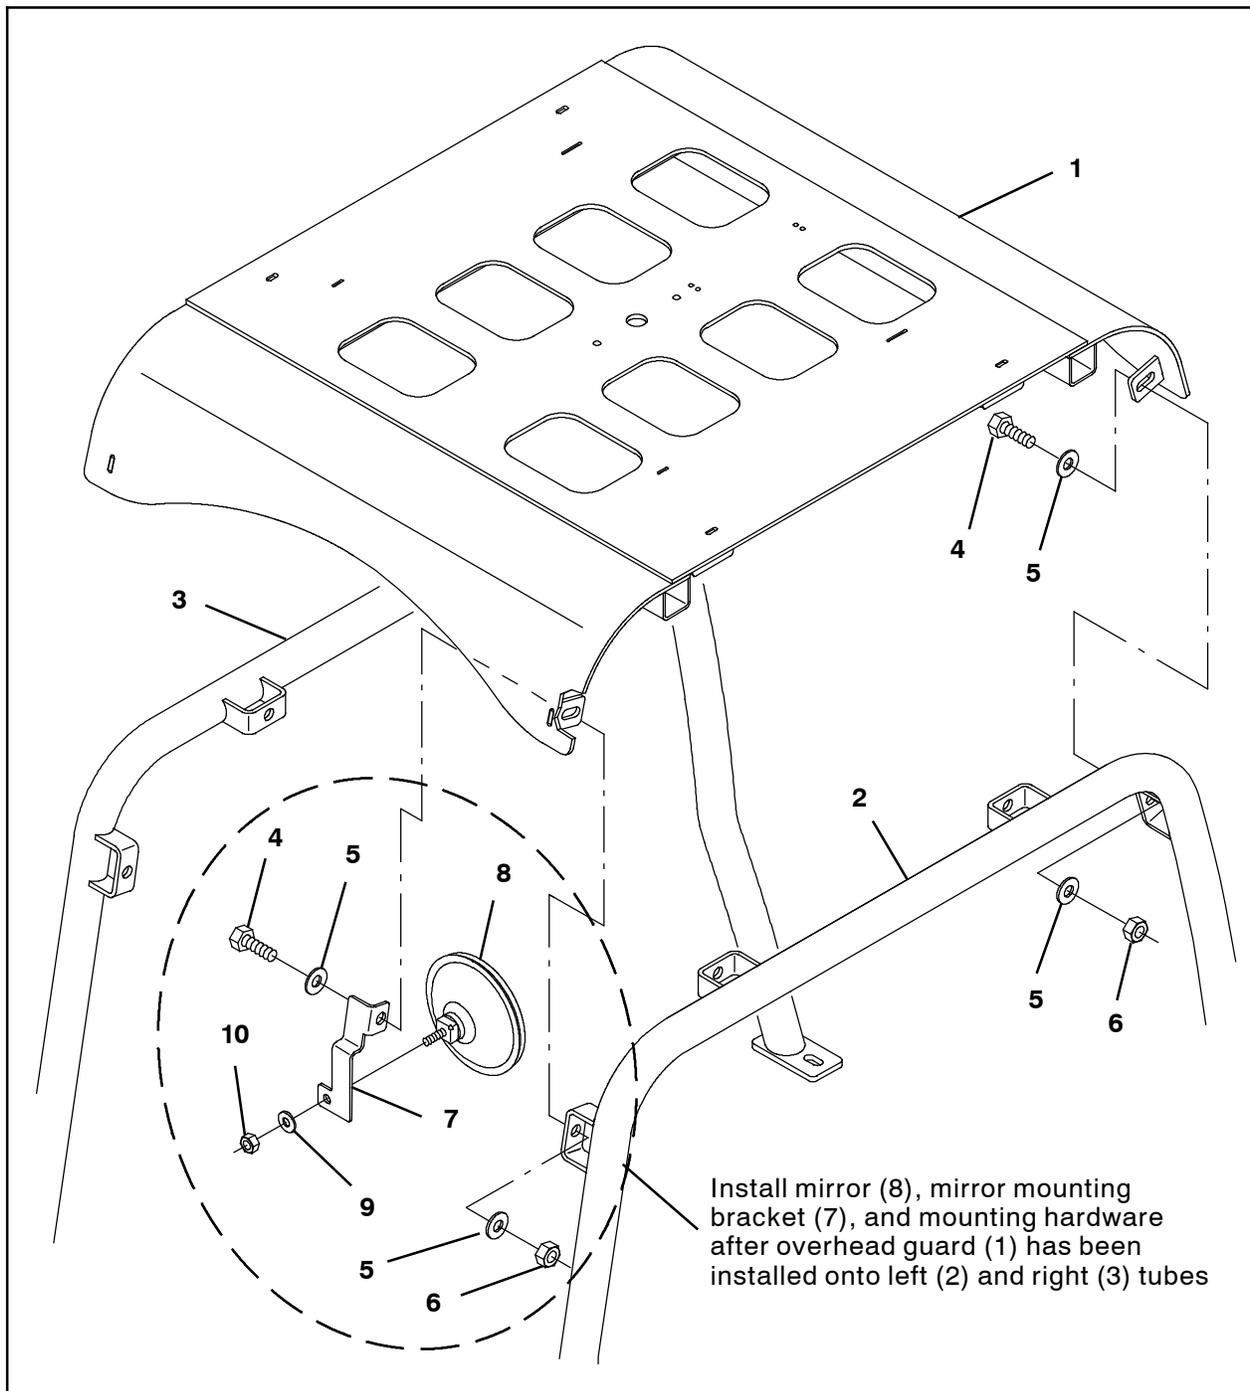

FIG. 8
7. Use seven hex screws (4), fourteen flat washers (5), and seven hex nuts (6) to install the overhead guard top onto the left overhead guard tube (2) and right overhead guard tube (3). Do not completely tighten the hex screws since it may be necessary to move the left overhead guard tube when installing the rest of the kit. (Fig. 8)
8. Use a hex nut (10) and flat washer (9) to install the mirror (8) onto the mirror bracket (7). (Fig. 8)
9. Use a hex screw (4), two flat washers (5), and a hex nut (6) to install the mirror assembly onto the overhead guard assembly. (Fig. 8)